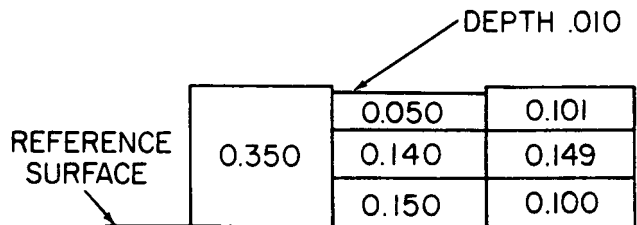
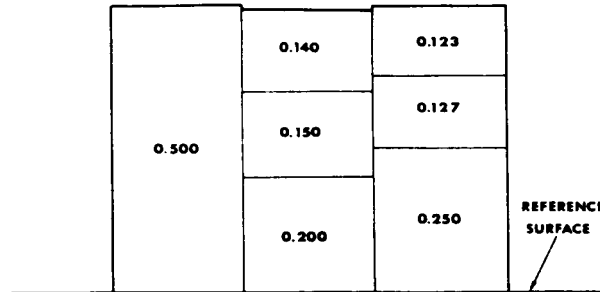

Figure 4. Dial indicating depth gage calibration.
Figure 5. Dial indicating depth gage calibration.
(1) Set up triangular base and three sets of gage blocks to measure a depth of 0.010 inch (fig. 4 and table 3) and for 1/2 inch depth gage (fig. 5 and table 4). Only center group of blocks need to be changed.